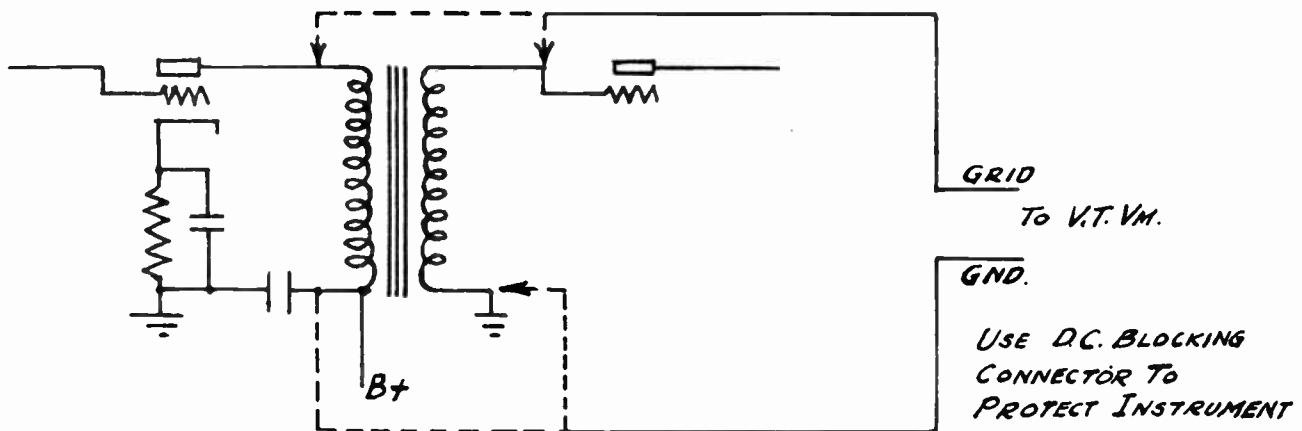

Figure 30
- 5.43—Tests for gain per stage can be made quickly and accurately by making use of the Model 669. The amplifier or audio section of the receiver under test should be connected to an oscillator which will produce a constant audio output reading. The oscillator can then be turned up until a reading is obtained across the first audio transformer on the vacuum tube voltmeter as shown in Figure 30. By connecting the Model 669 to the secondary of this same transformer the step-up ratio in voltage can be determined. The voltmeter can then be moved along to the primary and secondary windings of the transformers in succeeding stages and readings taken giving the overall gain or gain per stage.